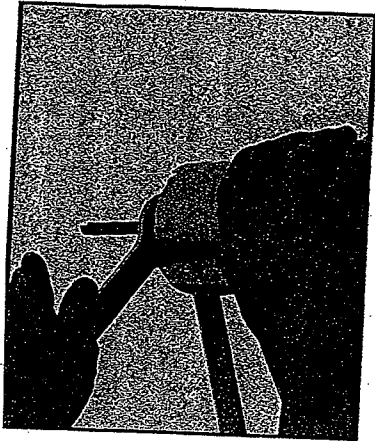

Fig. 2
5. Place one wrench on flats on chuck with the opposite end of the wrench resting on the bench to your left, Fig. 2.
6. Place other wrench on collet and tighten COUNTERCLOCKWISE as shown in Fig. 2. TIGHTEN FIRMLY.